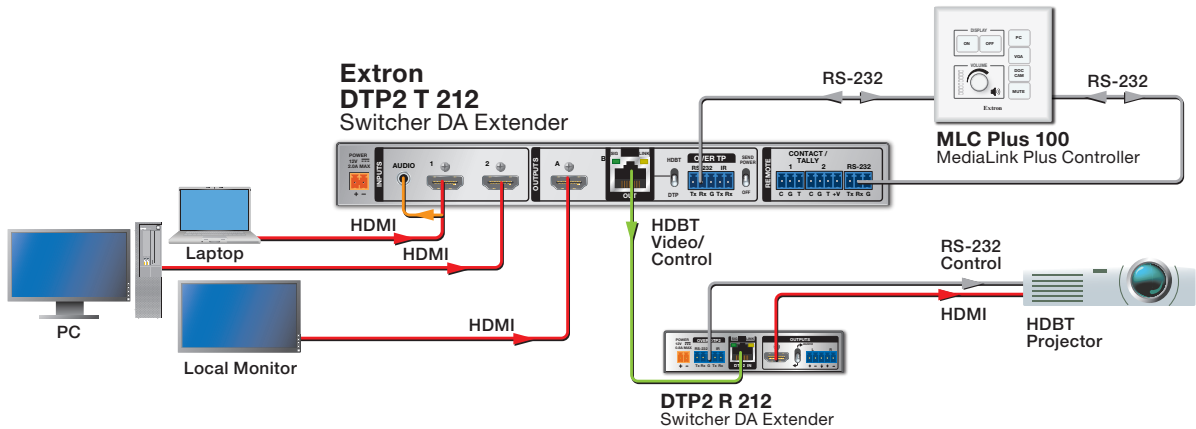

Figure 1. Application Diagram of the DTP2 T 212
3. Connect HDMI input sources to one or both of the HDMI inputs (see figure 1, **C**).